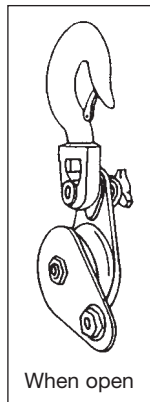

Figure 29
- A single or multi-sheave block that opens on one side so a rope can be slipped over the sheave rather than threaded through the block (Figure 29).